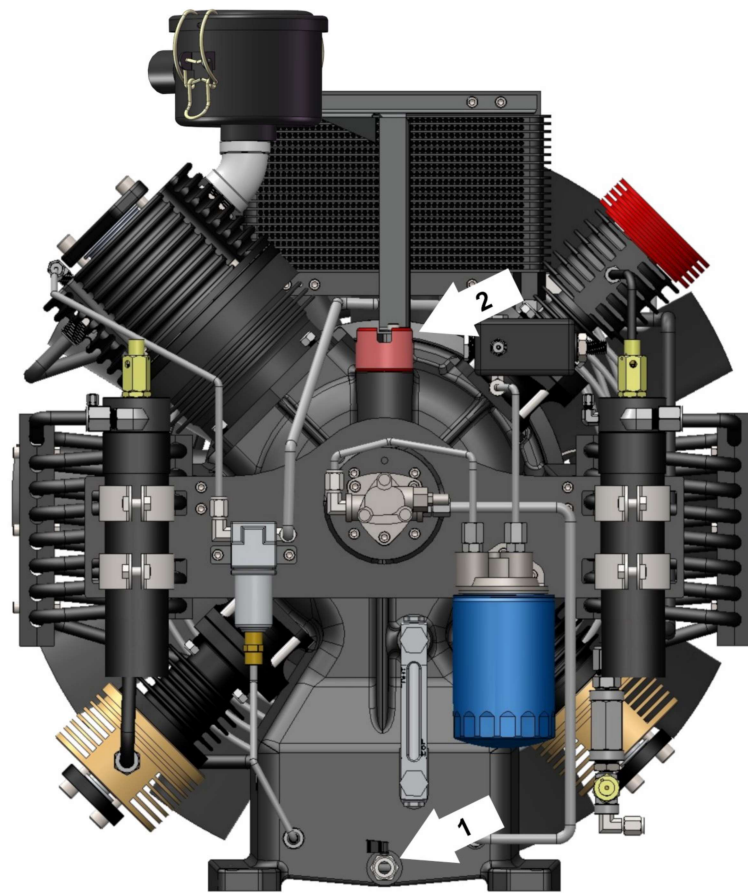

Figure 6.2 Oil Drain and Fill Cap Locations
2. Place drain pan under the drain (or pipe nipple end). ("1" Figure 6.2)